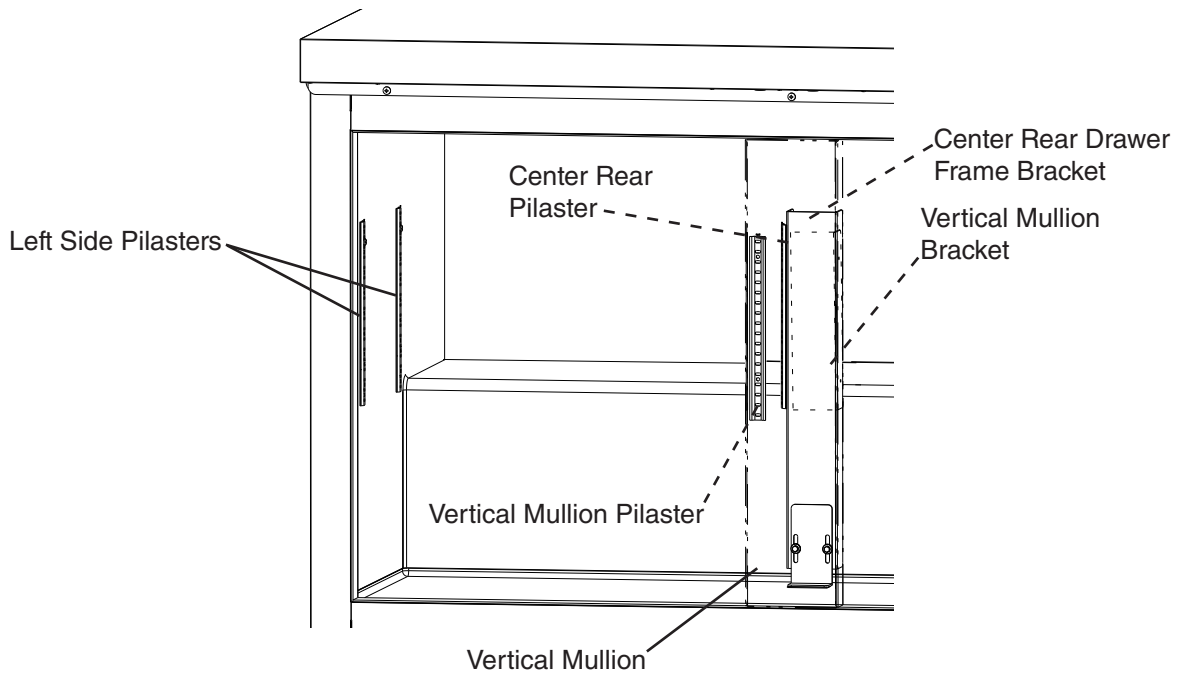

**Fig. 26**
- 8) Place and secure the pilasters and shelf support clips in their new location. See Fig. 26. Replace the shelf.